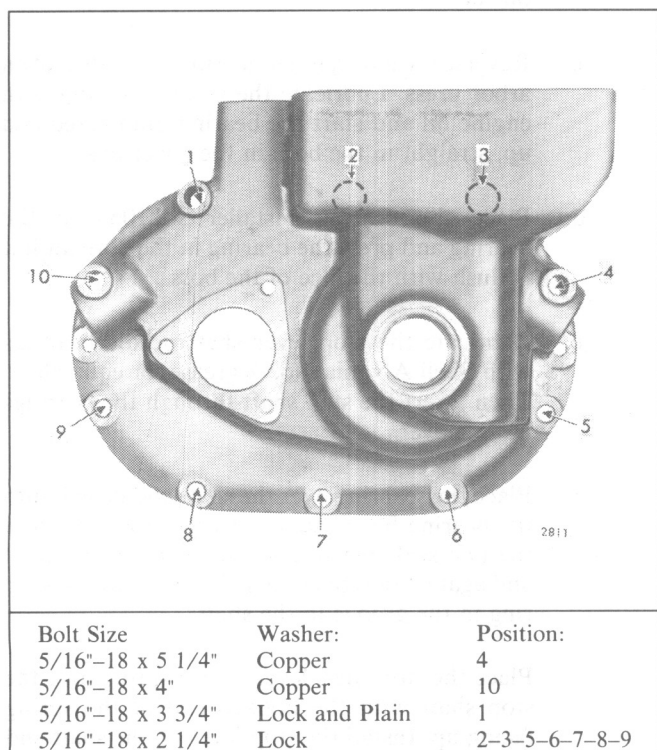

Fig. 24 – Location and Size of Governor Retaining Bolts
6. Refer to Fig. 24 for the location and install the bolts, lock washers, copper washers and plain washer which secure the governor to the blower. Tighten the bolts to 13–17 lb–ft (18–23 N•m) torque.
2. Refer to Fig. 24 for bolt location and install the bolts, lock washers, plain washer and copper washers which secure the governor to the blower. Tighten the bolts to 13–17 lb–ft (18–23 N•m) torque.